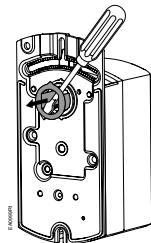

Figure 3. Removing 1/2-inch Ø shaft guide for 3/8-in or 5/8-in shaft.
When using a 3/8-inch shaft: Remove factory installed 1/2-inch guide. See Figure 3.
1. Remove factory installed 1/2-inch guide. See Figure 3.